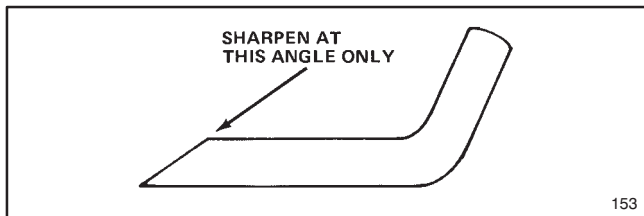

Figure 25
6. SHARPENING BLADE—Using a file, sharpen top side of blade and maintain original cutting angle (Fig. 25). The blade remains balanced if the same amount of material is removed from both cutting edges.